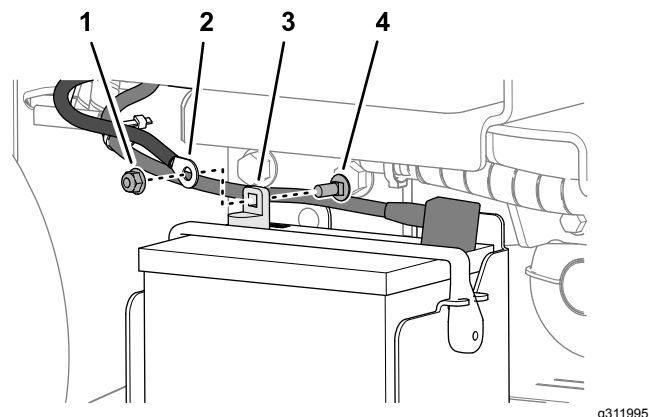

Figure 61
7. Remove the cable from the negative battery terminal (Figure 61).